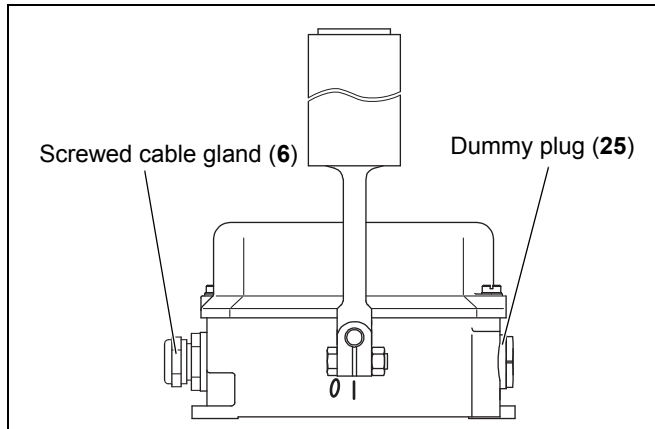

Fig. 5-1: Scope of delivery
One screwed cable gland (6) and one dummy plug (25) are included in the scope of delivery (see fig. 5-1).